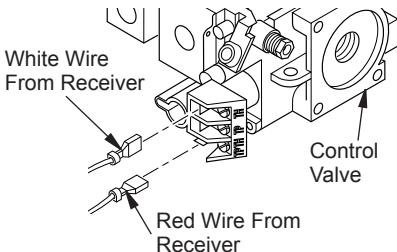

Figure 21 - Connecting Wires
9. Connect wires to control valve at the TPTH and TH locations as shown in Figure 21. *Note: Make sure excess wire does not interfere with burner or pilot.*